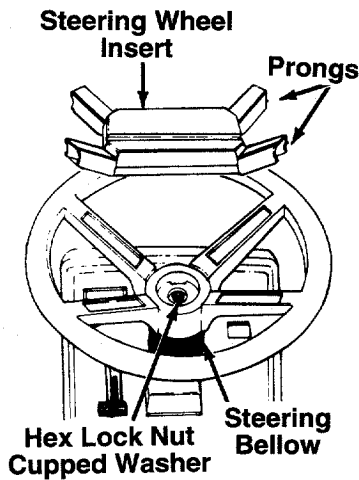

FIGURE 4.
2. Attach one end of steering bellow to the steering wheel as shown in figure 4, inset. ←
5. Place the washer with the cupped side down over the steering shaft. Secure with hex lock nut. See figure 4.